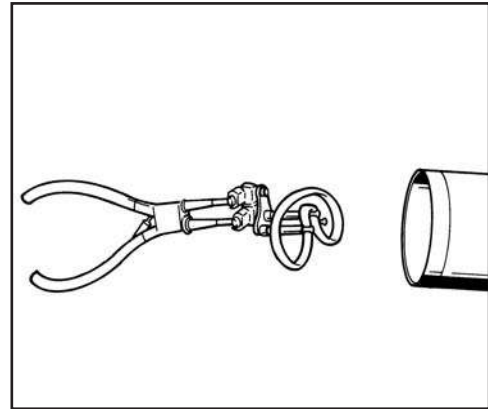

FIG. 64: INSTALLING CONTROL SLEEVE SEAL
3. Place the control sleeve seal, with its special tool into the inner groove of the control sleeve in the shape of a kidney (see Fig. 64).